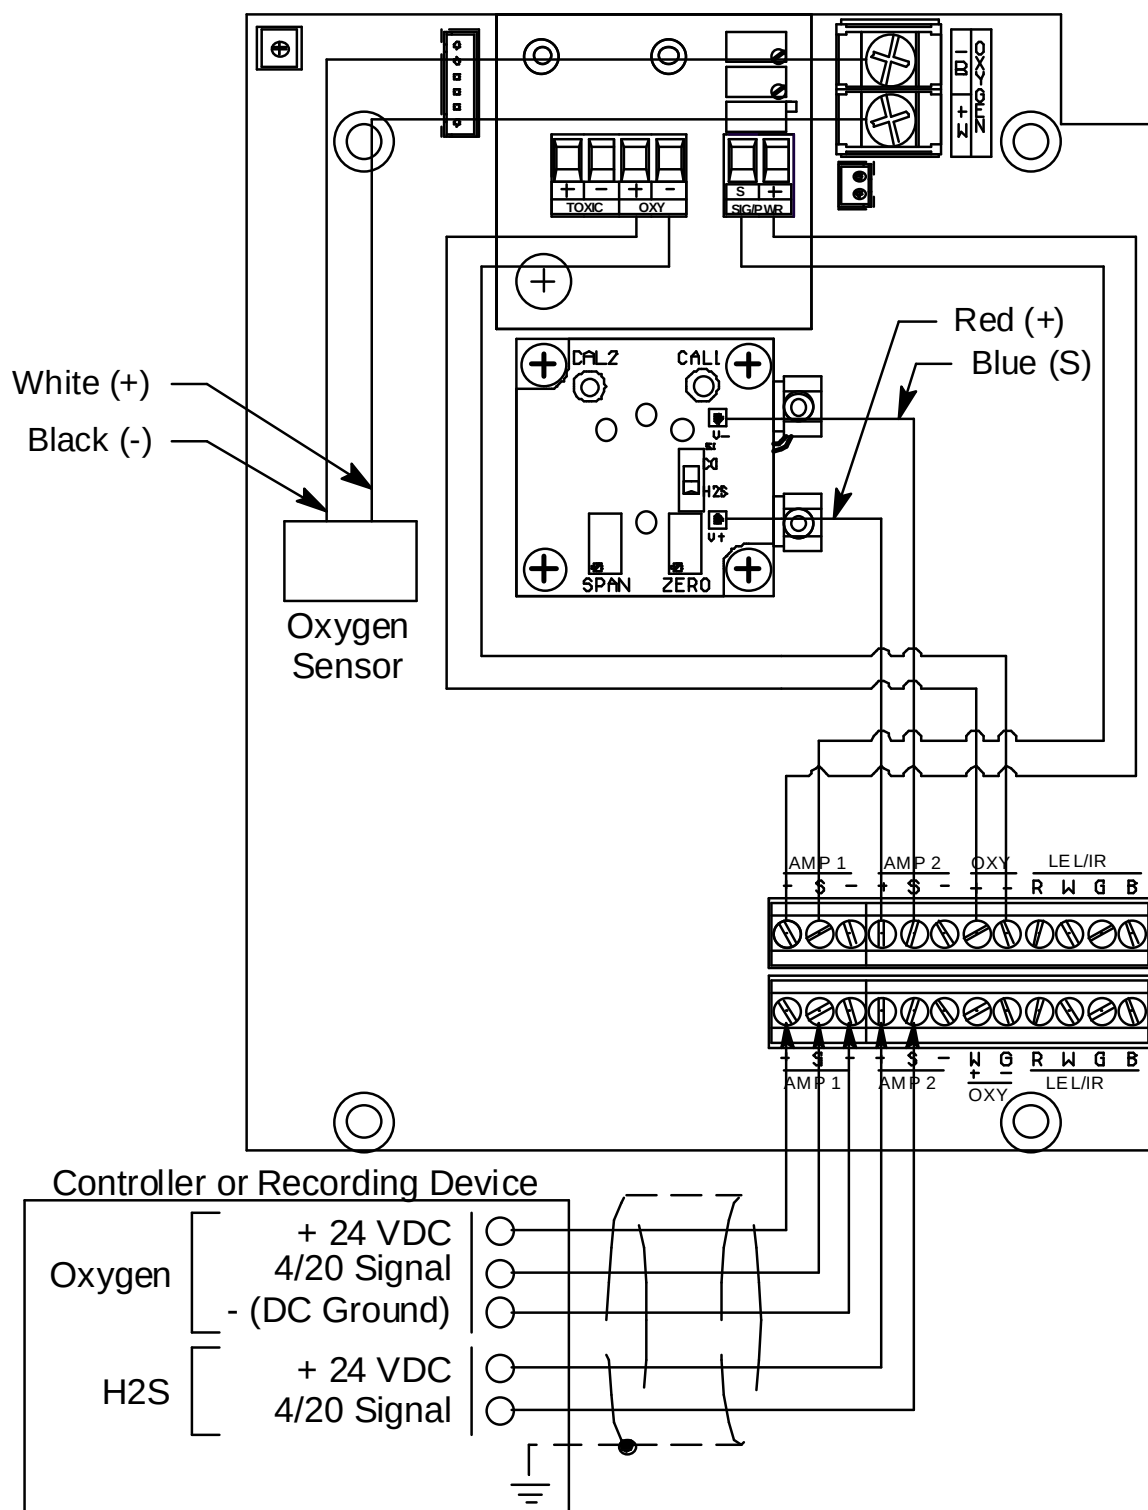

Figure 6: Wiring the Sample-Draw Detector to a Controller
5. Connect the cable to the sample-draw detector’s interconnect terminal strip as shown in Figure 6.
8. Connect the wires to the applicable detector/transmitter terminal strip at the controller as shown in Figure 6. Refer to the controller operator's manual and the controller detector head specification sheet for the 35-3001A-09 for detector/terminal strip connections specific to the controller.